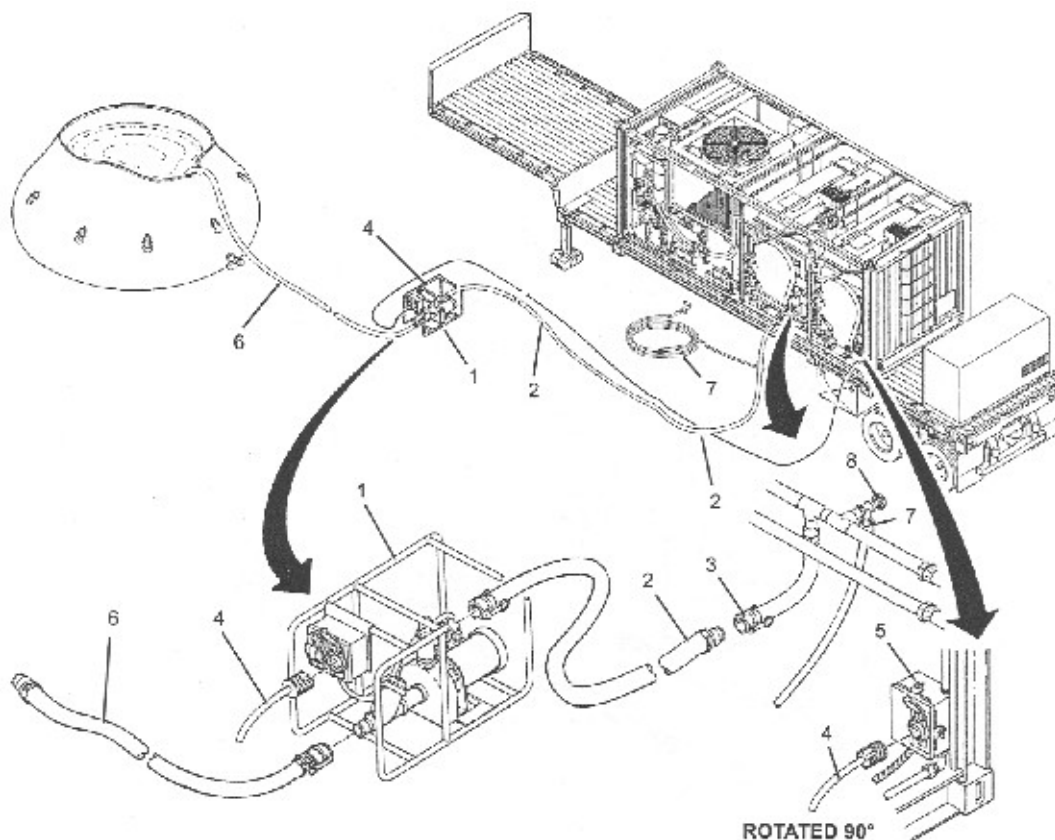

Figure 3-45
1. Place water supply pump (1) at desired location.
2. Connect a 50 ft water supply hose (2) at water supply port (3).
3. Connect electrical cable (4) at junction box (5).
4. Roll out and route hose (2) and cable (4) towards water supply pump (1).
5. If necessary connect second 50 ft water supply hose (2) to first 50 ft water supply hose and roll out towards water supply pump (1).
6. Connect hose (2) at water supply pump (1).
7. Connect electrical cable (4) at water supply pump (1).
8. Connect 10 ft water supply hose (6) at water supply pump (1).
9. Connect or insert hose (6) at water supply.
10. Connect utility hose (7) to faucet (8) then place hose on ground. (See Figure 3-45)